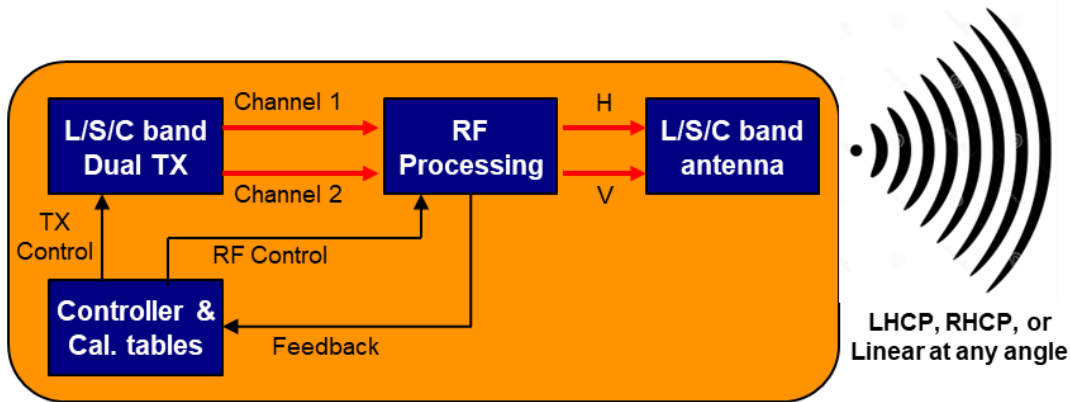

Figure 2: Block Diagram of the QSight™ Boresight System
The QSight™ Boresight System is a multi-band, high-powered, boresight RF test source. It supports L, S, and C frequency bands using a dual-output transmitter along with a dual polarization (Horizontal and Vertical) antenna. A variety of IRIG-106 modulation and coding options can be selected over a wide range of data rates and output power levels. In addition to controlling its frequency and power, the QSight™ Boresight System is also capable of synthesizing any type of linear as well as Left Hand (LH) or Right Hand (RH) circular polarization. A block diagram of the system is shown in Figure 2.